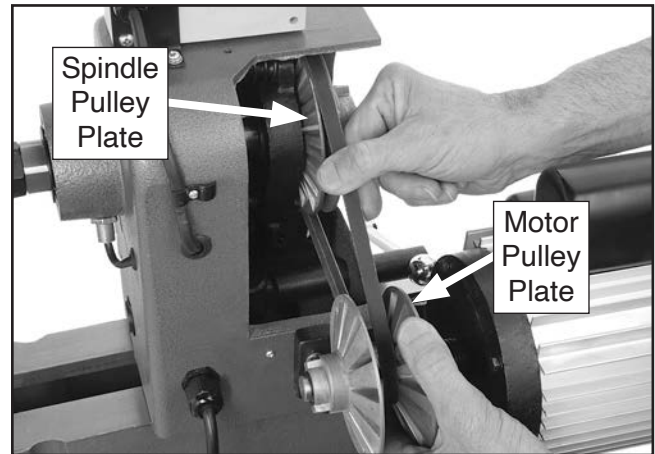

Figure 44. Example of replacing V-belt.
4. Manually rotate spindle pulley plate and simultaneously move spindle speed lever all the way right to loosen spindle pulley plates (see **Figure 44**).
5. Pull motor pulley plates apart so V-belt slips down to motor arbor, as shown in **Figure 44**. This will decrease tension on V-belt.